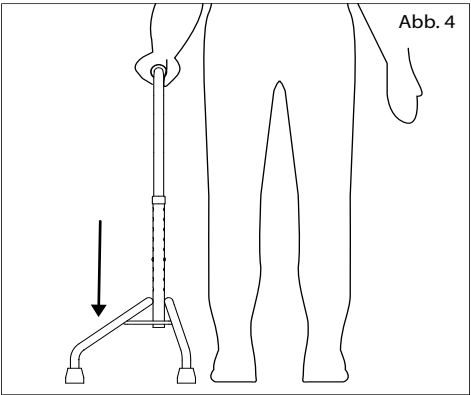

Abb. 4
- 2. The two furthest extending feet must point away from your body (Fig. 4) and the open end of the hand grip must point backwards (see reference diagram on page 9).
- 1. Always hold the quad cane with the correct hand. You can tell whether you have got it right by checking that the two furthest extending feet are pointing away from your body (Fig. 4).